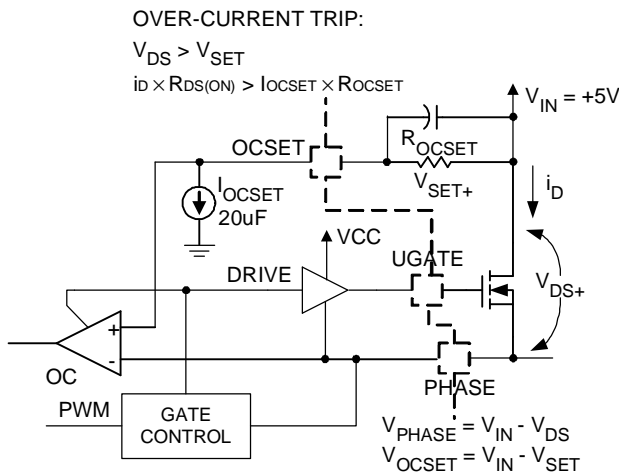

Figure 3
The over current protection (OCP) function of the RT9202B is triggered when the voltage across the $R_{DS(ON)}$ of upper side MOSFET that developed by drain current exceeds over-current tripping level. An external resistor (R_{OCSET}) programs the over-current tripping level of the PWM converter. As shown on Figure 3 the internal $20\mu\text{A}$ current sink (I_{OCSET}) develops a voltage across R_{OCSET} (V_{SET}) that is referenced to V_{IN} . The DRIVE signal enables the over-current comparator (OC). When the voltage across the upper MOSFET ($V_{DS(ON)}$) exceeds V_{SET} , the over-current comparator trips to set the over-current latch.